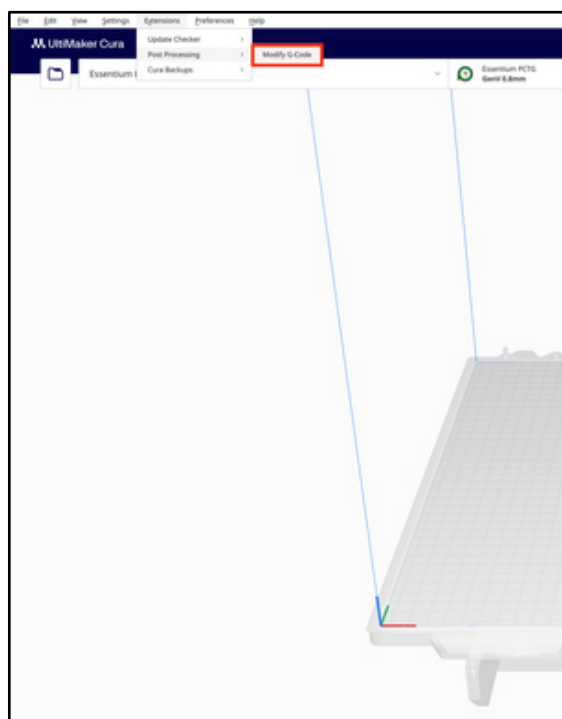

Figure 8: Navigating to Post-Processing Scripts
14. Navigate to Extensions > Post Processing > Modify G-Code (See Figure 8).